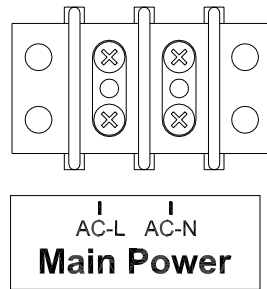

Figure 8 Power to Scoreboard Connections
3. Connect the AC line wire and AC neutral wire to the **Main Power** terminal block on the junction chassis according to Figure 8.